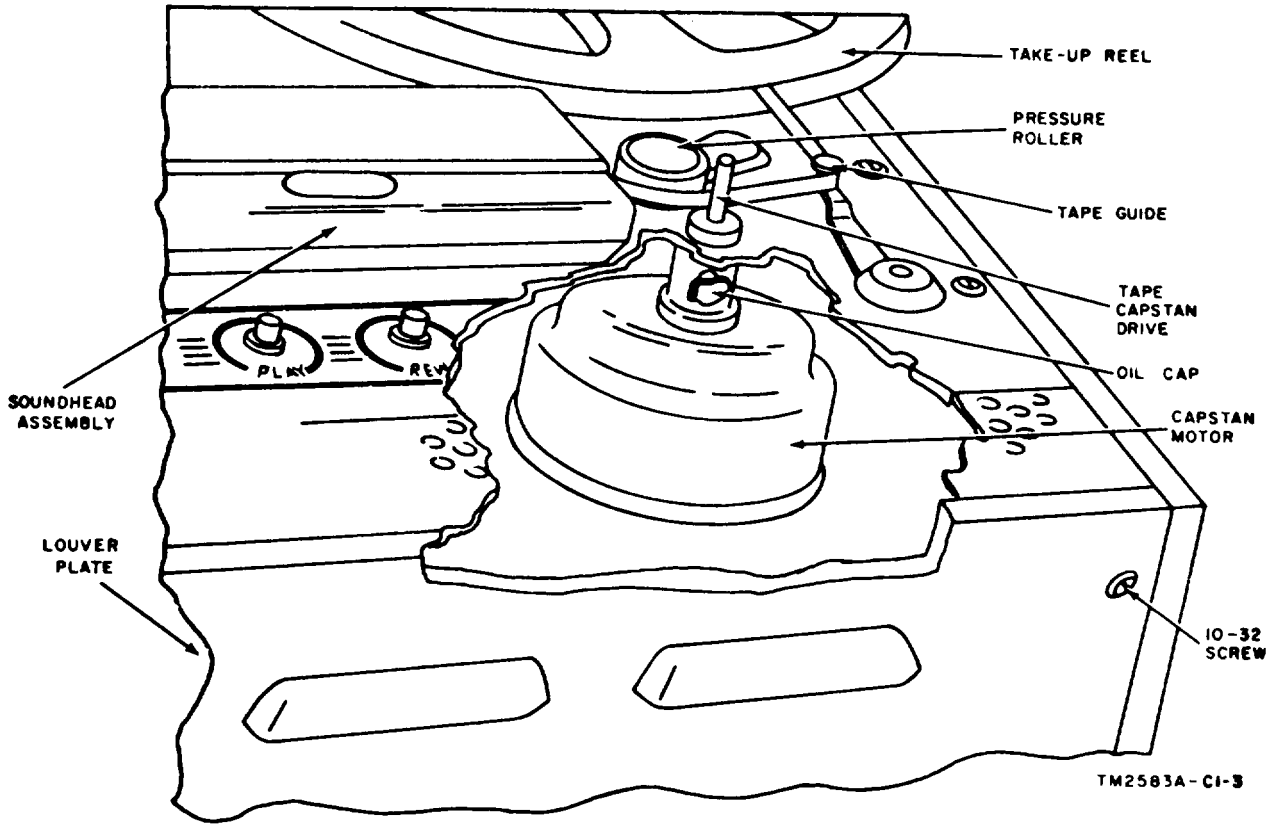

Figure 17.1 (Added) Capstan motor, location oil filler cap.
(Superseded) (fig. 17.1 )
b. *Capstan Motor (fig. 17.1).* Once every 1,000 hours of operation, lubricate the capstan motor as follows:
- (1) Remove the four 10-32 screws that secure the louver to the front of the recorder-reproducer and remove the louver. The capstan motor is now exposed.
- (2) Lift the oil filler cap, apply 2 drops of oil (OAI) to the bearing and close the oil filler cap.
- (3) Examine the chassis for drops of oil and remove oil if required.
- (4) Replace the louver.